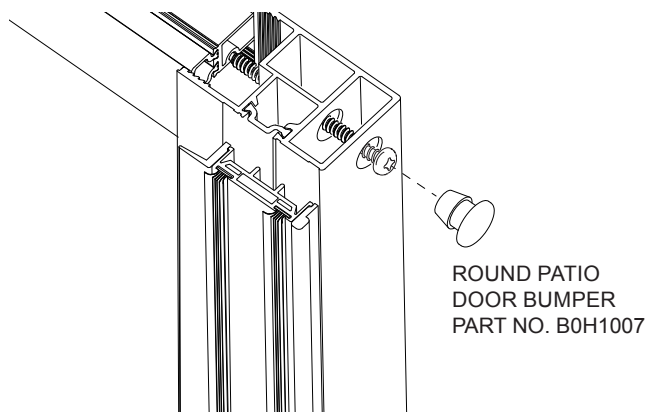

FIG. 16
5. Install the Round Patio Door Bumper. (FIG. 16)